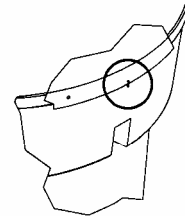

Fig. 1
1. Place the rear hatch lid on the container and line up the two notches. (fig. 1)